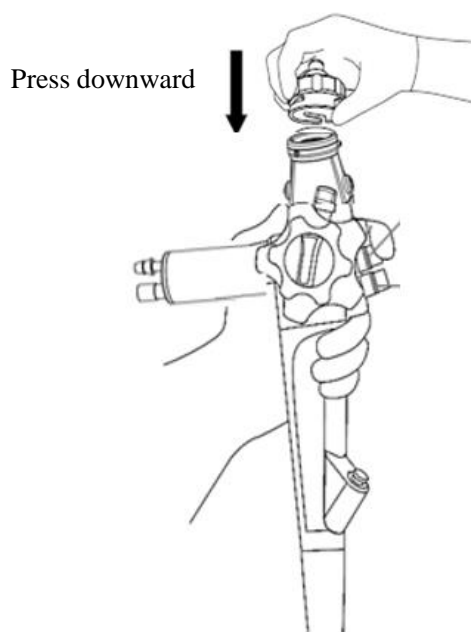

Figure 7.9
3. Make sure that there is no water on the outer side of the ventilation interface of the waterproof cover. Cover the waterproof cover with the electrical connector of the light guide plug, and connect the interface cover of the leak detector to the ventilation interface of the waterproof cover through the connecting tube (as shown in Figures 7.9 and 7.10).